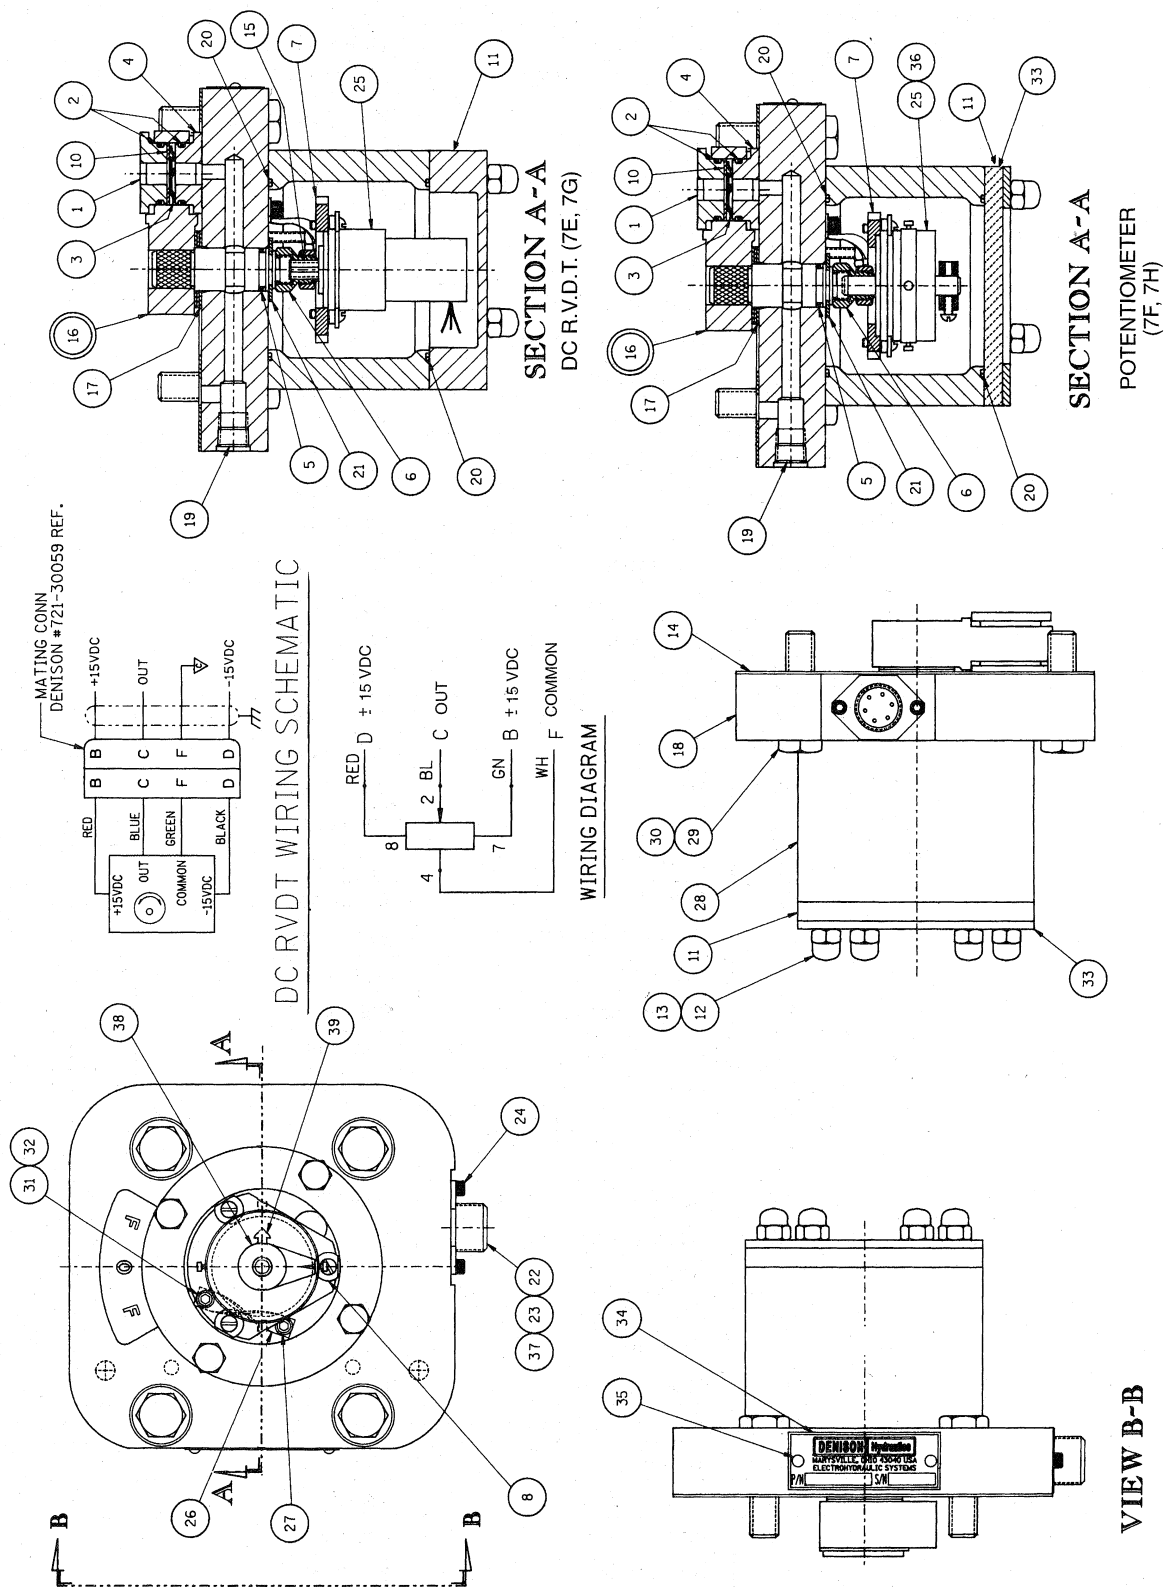

FIGURE 7
*For Figure 7 - Feedback for 700